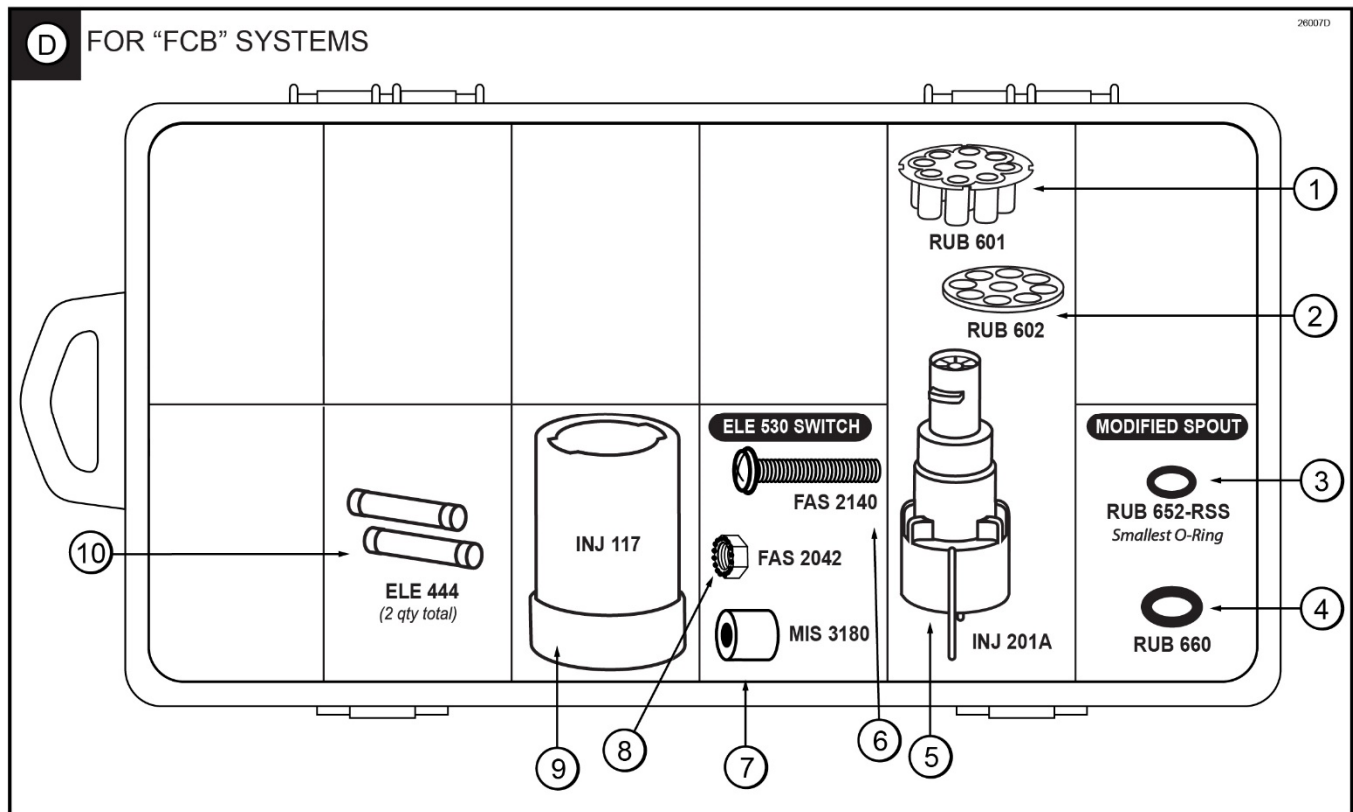

Figure 8D
**“FCB” Spare Parts Kit (See Figure 8D)**